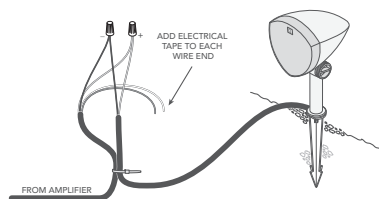

Figure 5
- Starting at the speaker furthest from the amplifier, strip 3/4" of insulation on the cut end of the burial wires for the appropriate amp channel according to the tables below, then strip insulation from the ends of the corresponding speaker's pigtail. Wrap any unused wires in electrical tape to protect them from moisture and short-circuiting (see Figure 5).
- Connect the burial cable to the speaker pigtail using a wire tie (see Figure 5).